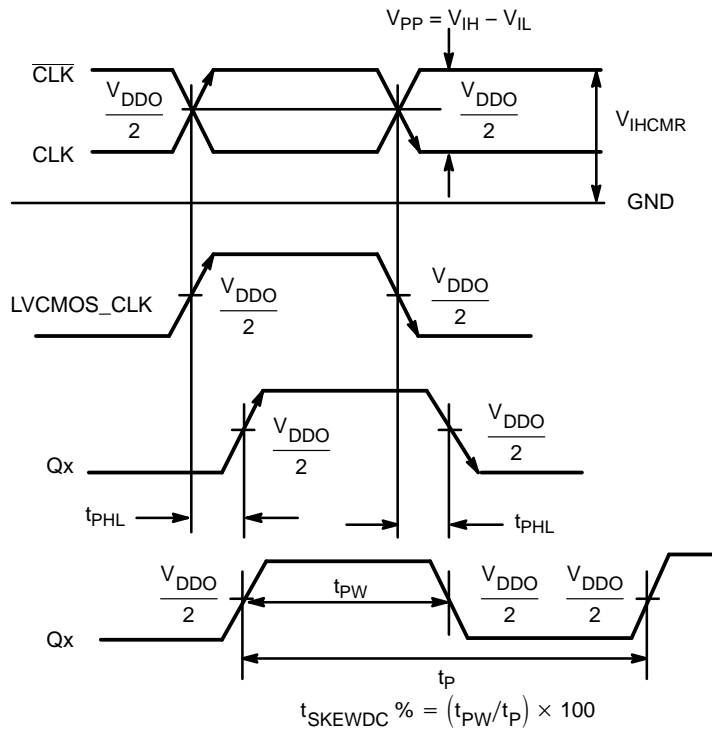

Figure 4. AC Reference Measurement
5. Outputs loaded with  $50\ \Omega$  to  $V_{TT}$  ( $V_{DDO}/2$ ); see Figure 5. CLOCK input with 50% duty cycle. Measured at CLK/ $\overline{\text{CLK}}$  crosspoint to Qx  $V_{DDO}/2$ , CLK  $V_{DDO}/2$  to Qx  $V_{DDO}/2$ ; see Figure 4.